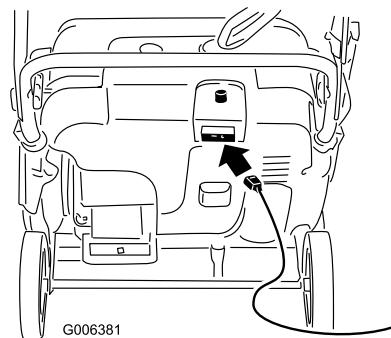
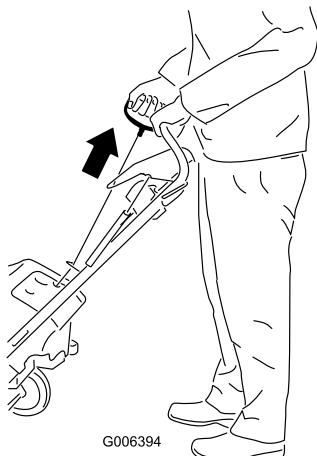

Figure 14
Figure 15
4. Connect an extension cord to a power source and the snowblower, and push the electric-start button (model 38577 only) (Figure 14), or pull the recoil start handle (Figure 15).